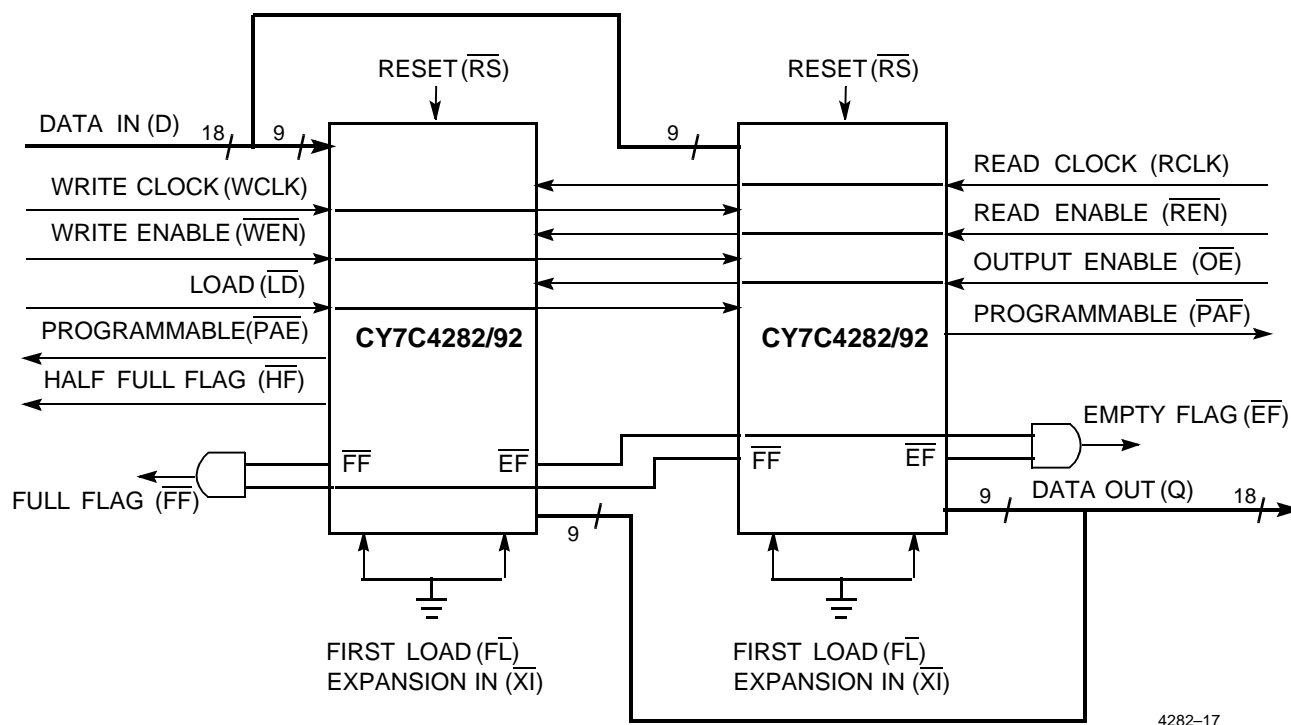

Figure 2. Block Diagram of 64Kx9/128Kx9 One Meg Deep Sync FIFO Memory Used in a Width Expansion Configuration
Word width may be increased simply by connecting the corresponding input controls signals of multiple devices. A composite flag should be created for each of the end-point status flags ($\overline{\text{EF}}$ and $\overline{\text{FF}}$). The partial status flags ($\overline{\text{PAE}}$ and $\overline{\text{PAF}}$) can be detected from any one device. *Figure 2* demonstrates a 18-bit word width by using two CY7C4282/92. Any word width can be attained by adding additional CY7C4282/92.
When the CY7C4282/92 is in a Width Expansion Configuration, the Read Enable (REN) control input can be grounded (See *Figure 2*). In this configuration, the Load (LD) pin is set to LOW at Reset so that the pin operates as a control to load and read the programmable flag offsets.